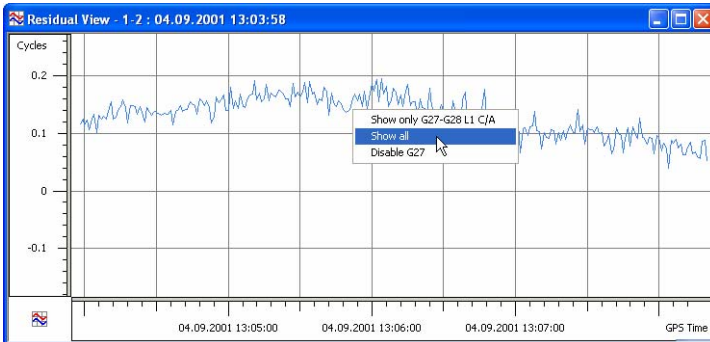

Figure 9-13. Viewing Only One Plot
- To display double difference residuals, select **Show Only** <name of pair> (Figure 9-13).